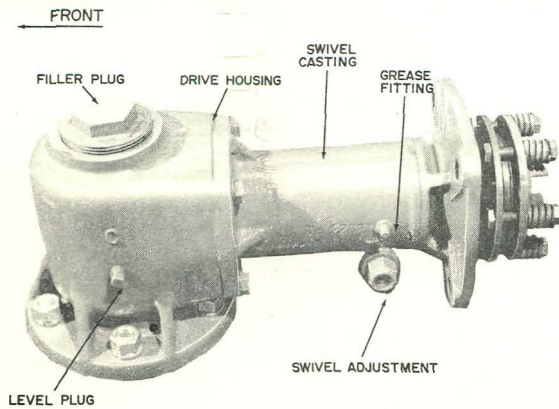

fig 6
- Remove filler plug and level plug, fig 6. Fill the gear drive housing to the oil level plug with SAE 90 gear lubricant. Replace the plugs. Check the level periodically especially if signs of leakage are present.
- Grease the swivel casting through the grease fitting on the casting with general purpose grease. Add grease until it comes out under the swivel adjustment fig 6. Regrease every 8 HOURS of operation.
2. CASTERS: The caster wheels should be adjusted (if necessary) after the mower is attached to a tractor. Raise or lower the casters, by use of the spacers, to make the mower level with the ground, fig 6, Item 46.